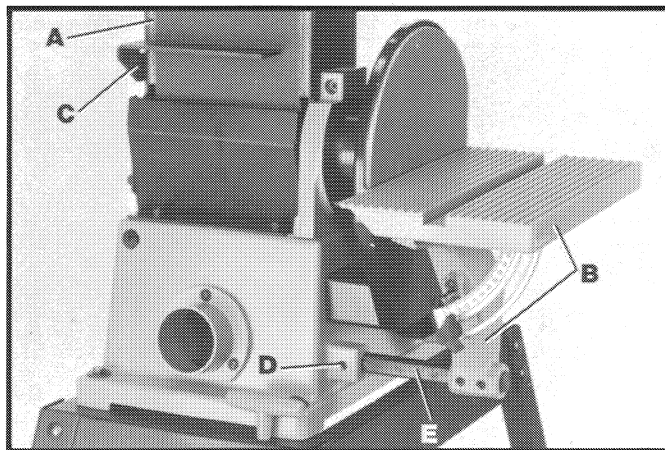

Fig. 33
When the sanding arm (A) Fig. 33, is in the vertical position, the complete table assembly (B) can be moved from the disc unit to the belt unit as follows:
1. Remove backstop (C) Fig. 33, from the machine.
2. Loosen screw (D) Fig. 33, and carefully remove support bar (E) and table assembly (B) from the disc unit.